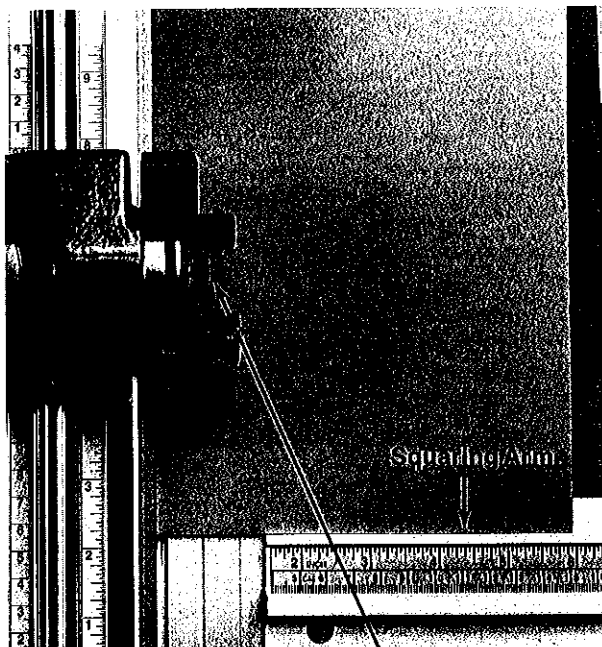

Figure 24
4. A **Detent Plunger** is provided on the right side of the **Head** which allows you to lock the vertical blade in its cutting position if you desire. It is activated by turning the **Detent Plunger**  $\frac{1}{2}$  turn. After the cut, push the **Plunger** in and the blade assembly will return to its normal up position. If you do not wish to use it, push the **Detent Plunger** all the way in while turning it  $\frac{1}{2}$  turn. It will then remain in a locked inoperative position. (See Fig. 24).